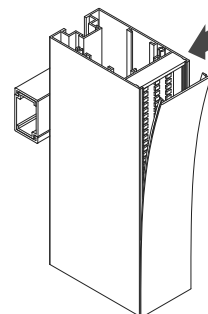

Figure 8a
- a. Install the provided Light Termination Block at the end of the lens. (Figure 8a)